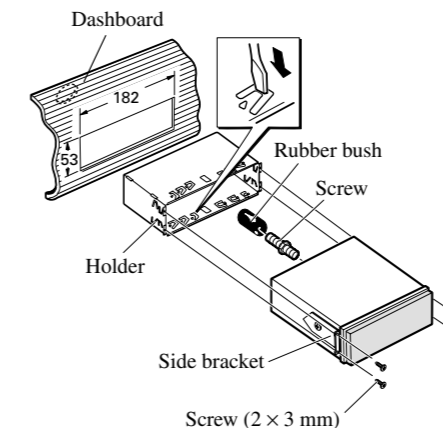

Fig. 16
2. **Install the unit into the dashboard. (Fig. 16)**